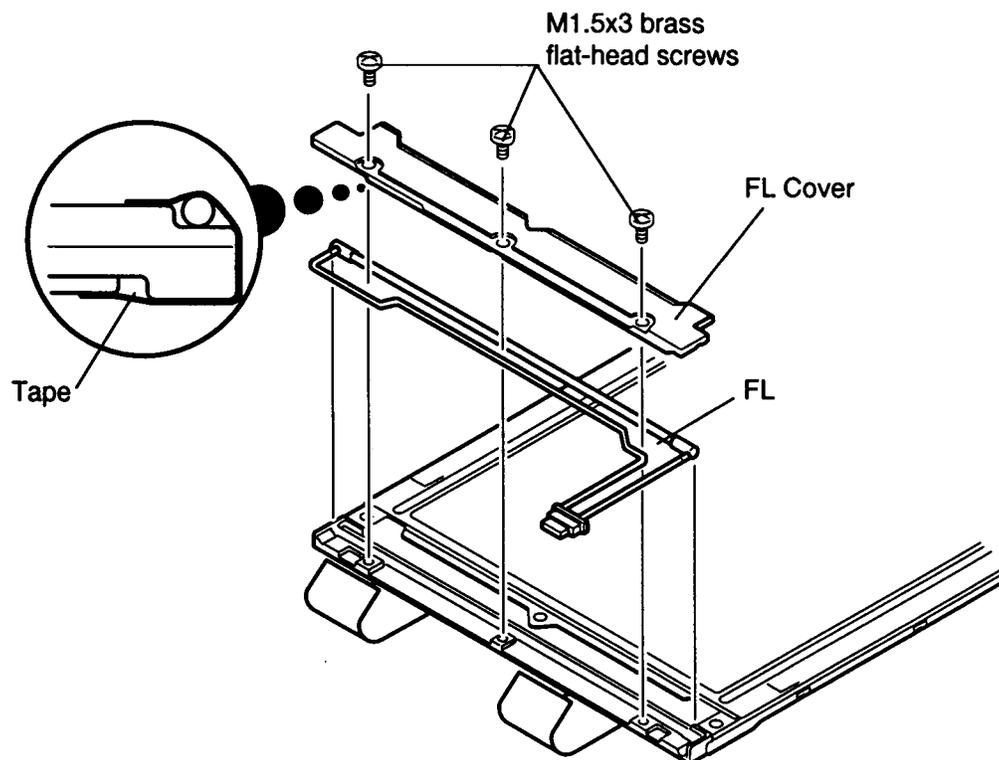

Figure 4-24 Removing the FL
To remove the T2100's FL, follow the steps below and refer to Figure 4-24.
To install the T2100's FL, follow the steps below and refer to Figure 4-24.
1. Seat the FL on the LCD module and slip the edge of the **FL cover** under the metal frame, aligning the holes in the cover with the corresponding holes in the display assembly cover (Figure 4-24).
3. Secure the **FL cable** to the **LCD panel** with tape as indicated in Figure 4-24.